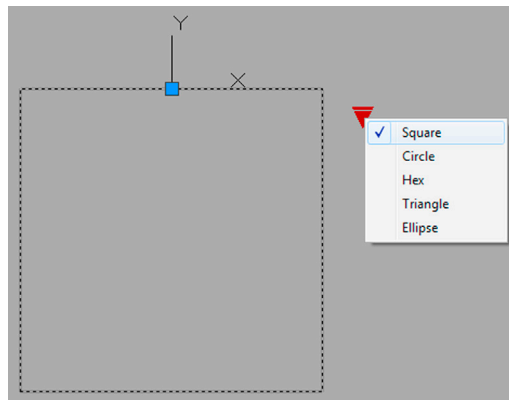

FIGURE 7.25 Visibility state menu.
Step 7. When you completed setting all of the visibility states, test them out via the *Test Block* button all the way on the left of the Ribbon's *Block Editor* tab. A new tab opens; go ahead and click on the block. Fig. 7.25 shows the first visibility state (square) with the drop-down menu revealing the rest of the choices. Click through each one to test each visibility state. When done, exit the test tab and save the dynamic block. It is now ready for use.